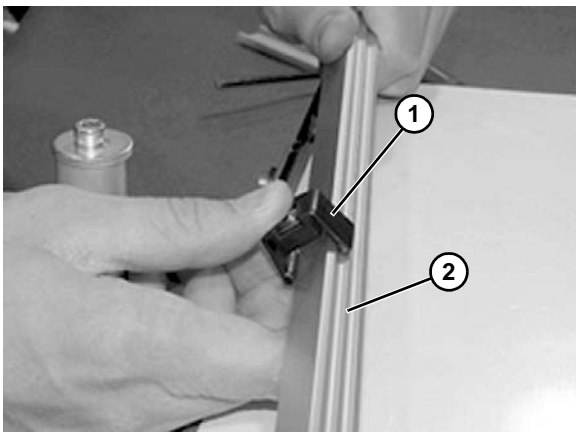

Figure 65
4. Snap clip (**Figure 65, item 1**) onto guide rail (**Figure 65, item 2**).